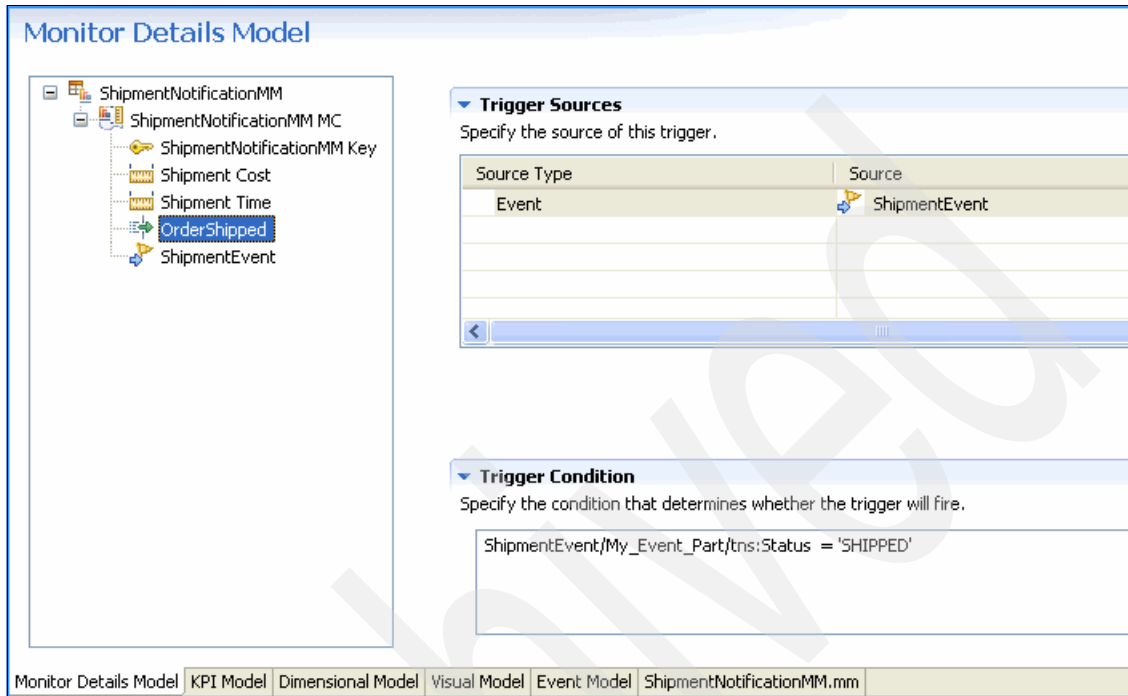

Figure 9-49 Specifying the trigger condition
5. In the Trigger Condition section (Figure 9-49), use content assist to help you type `ShipmentEvent/My_Event_Part:tns:Status = 'SHIPPED'`.